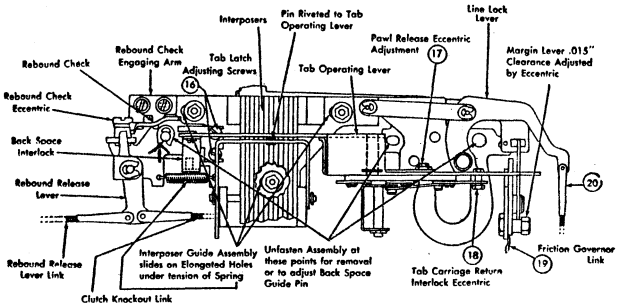
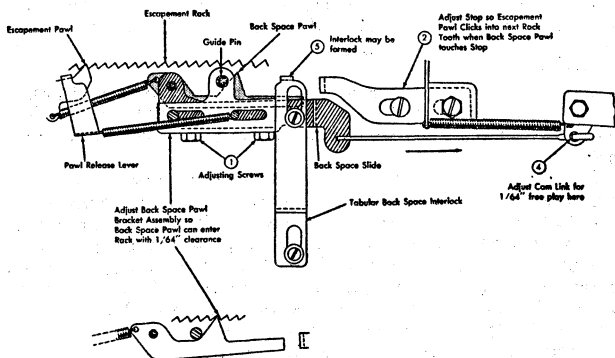

Figure 8. Rear Rail, Rear View
Figure 10. Back Space Mechanism
15. **THE REBOUND CHECK PAWL** should not strike on the interposer guide assembly (Figure 8). With the interposer guide pushed to the extreme right and the tab operating lever actuated, no interference will result if the high point of the eccentric is kept to the rear.
17. **THE PAWL RELEASE LEVER** must be adjusted by means of the eccentric nut on the tab operating lever (Figure 8) so that the escapement pawl clears the rack by .005" to .015" when the tab operating lever is latched out.
18. **THE TABULAR-CARRIAGE RETURN INTERLOCK** should be adjusted, by means of its eccentric attached to the underside of the tab operating lever, so that with the tab cam on its high point, the clutch knockout lever will be prevented from rising (Figure 8).
19. **THE FRICTION GOVERNOR PAWL LINK** should be adjusted so that the friction governor pawl engages the teeth of the friction governor plate by the thickness of its own metal (Figure 8).
20. **THE VERTICAL LINK FROM THE LINE LOCK LEVER** should be adjusted so that it pushes the bell crank at right angles to its lever arm when the margin stop is fully engaged with the margin lever (Figure 8).
1. **THE BACK SPACE PAWL BRACKET** should be adjusted on its elongated mounting holes so that the back space pawl can enter the escapement rack with $1/64$ " clearance (Figure 10). In order to gain access to the back space pawl bracket mounting screws, the tab lever operating bracket assembly may be backed away from the rail by removing the three screws on which the assembly is mounted (Figure 8).
2. **THE BACK SPACE PAWL STOP** must be adjusted on its elongated holes so that when the back space pawl touches the stop, the escapement pawl will just click into the next tooth of the rack (Figure 10).
4. **THE LINK FROM THE CAM TO THE BELL CRANK** under the rear rail should be adjusted so that the rear back space pawl link lies in place with $1/64$ " clearance between the link and the operating edge of the hole in the bell crank (Figure 10).
5. THE TAB-BACK SPACE INTERLOCK should require no adjustment unless it becomes damaged. The lug on the interlock is formed so that with the tab operating lever latched out, the back space pawl cannot touch the rack when the back space is operated (Figure 10).